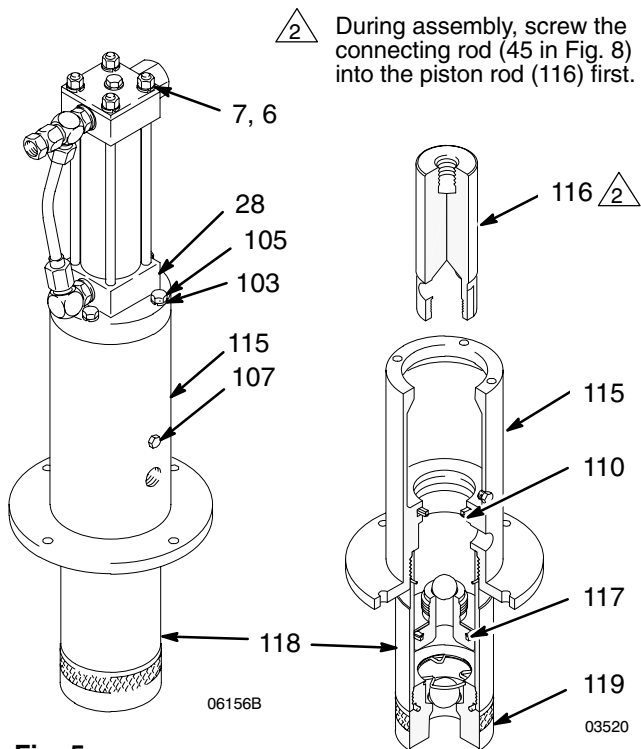

Fig. 5
**NOTE:** Replace these seals if fluid leaks excessively through the porous plug (107), see Fig. 5. This procedure can be done without disassembling the entire reciprocator.
## Disconnecting Reciprocator and Displacement Pump and Replacing Throat Seals. See Fig. 5.
See Fig. 5.